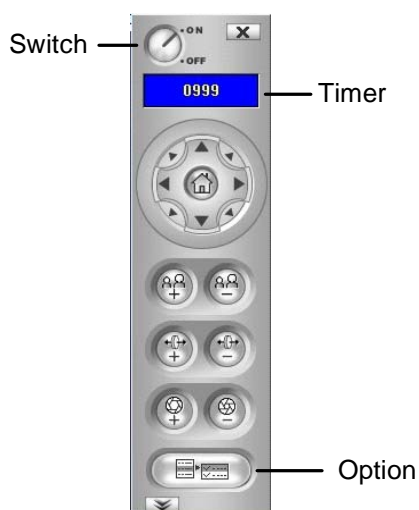

Figure 8-36
1. Select a PTZ capable camera from the monitoring window, or double-click it on the Host List (Figure 8-36).